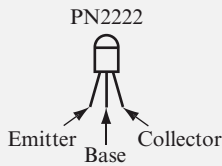

FIGURE 9.17
- ❑ One PN2222 transistor. Figure 9.17 shows the pinout diagram for PN2222 transistors.